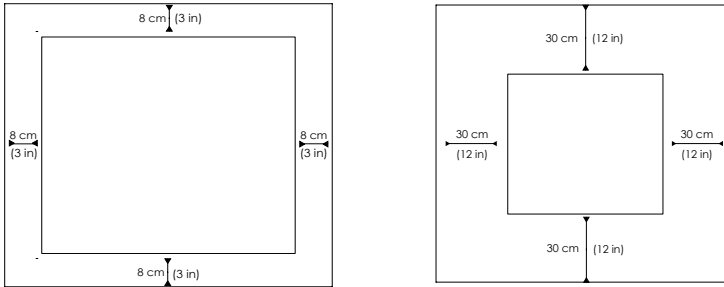

Figure 15: Set Up Clearances for Incubated (left) and Refrigerated Shakers with free air above (left), and Refrigerated Shakers without free air above (right)
- Solaris 6000 I incubated shakers require a clear area of 15–20 cm (6–8 in) on all four sides of the casing, as shown on the left side of Figure 15.
- Solaris 6000 R refrigerated shakers may be operated with a clear area of 15–20 cm (6–8 in) on all four sides of the casing if there is **free air space above** the shaker, as shown on the left side of Figure 15.
- If the **air space above** the Solaris 6000 R refrigerated shaker **is obstructed**, the clearance around the casing must be increased to 30 cm (12 in) on all four sides, as shown on the right side of Figure 15.